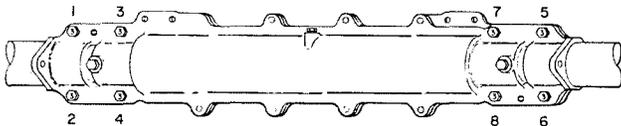

Fig. 21—Bolts Placed in Splice Case
3.32 Place bolts in positions 1, 2, 3, 4, 5, 6, 7, and 8 as shown in Fig. 21.